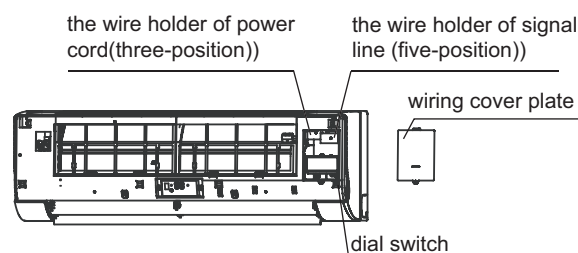

Fig. 7-2
- 2 Individual connect the power cord and signal line, adjust the dial switch. (see Fig. 7-2)